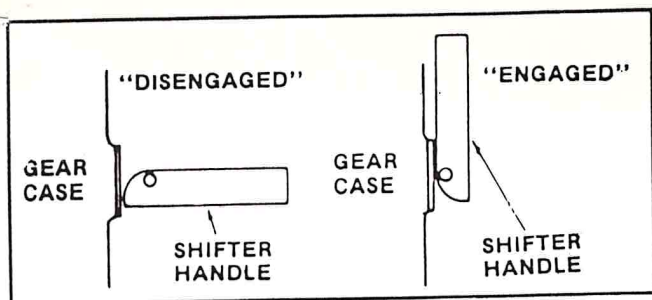

FIGURE 5
- Place blade shifter handle in "disengaged" position (handle will point straight out from unit) Figure 5.